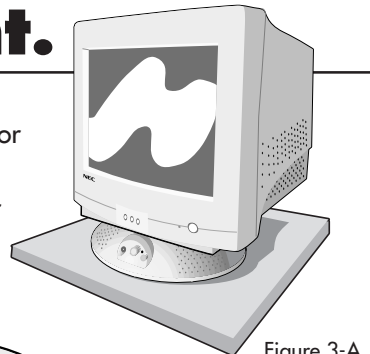

Figure 3-A
STEP 3-A. Having successfully installed your audio base, carefully turn the monitor right side up (**Figure 3-A**).